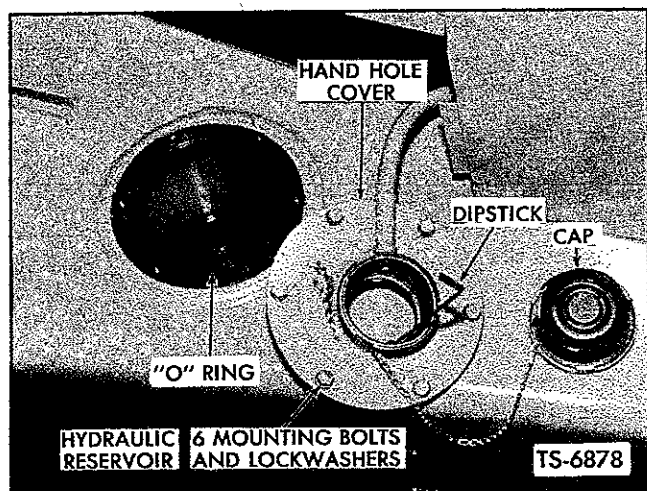

Fig. 43. Remove Reservoir Cap, Dipstick and Hand Hole Cover
1. Loosen reservoir cap slowly to relieve pressure in hydraulic reservoir. Remove reservoir cap, dipstick, and hand hole cover as shown in Figure 43.